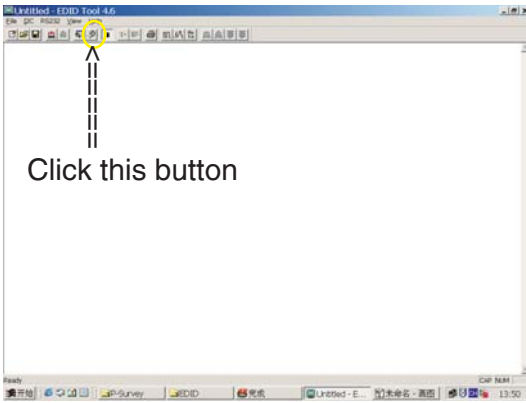

Fig. 11
1. Click icon as shown in Fig. 11 from the tool bar to bring up the Channels "Configuration Setup" windows as shown in Fig. 11.